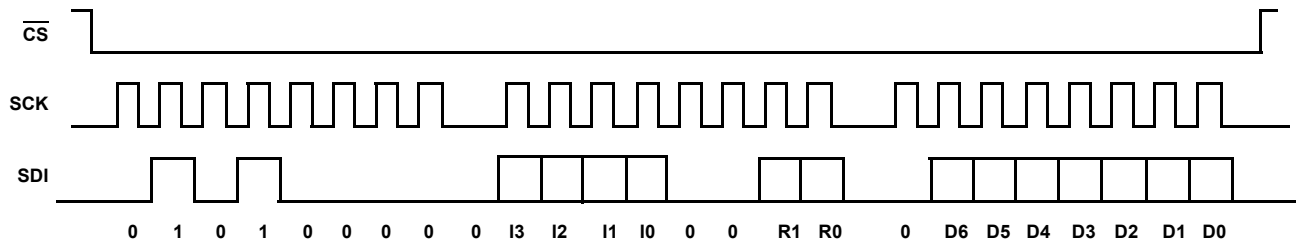

FIGURE 16. THREE BYTE WRITE SEQUENCE
by Data Byte is sent to SDI pin. The host terminates the write operation by pulling the \overline{CS} pin from LOW to HIGH. For a write to address 0 (WR), the byte at address 2 (ACR<7>) determines if the Data Byte is to be written to volatile or both volatile and non-volatile registers. Refer to "Memory Description" on page 10 and Figure 16.